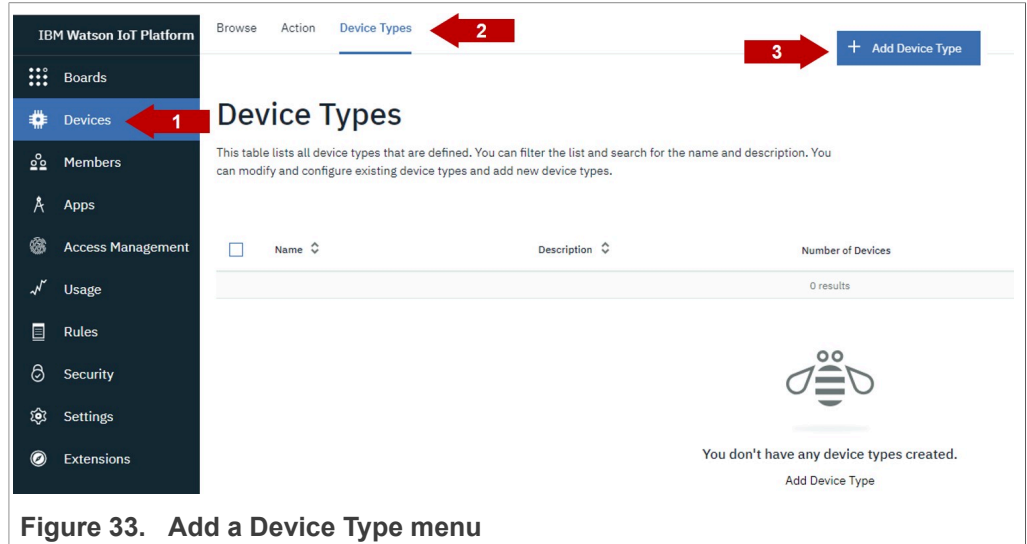

Figure 33. Add a Device Type menu
1. From the menu pane, select **Devices**, then select **Device Types** and click **Add Device Type** as shown in Figure 33: